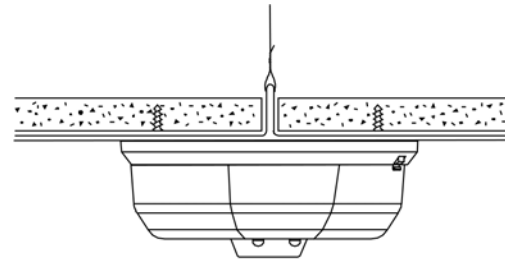

Figure 3 Mount the CO detector across ceiling panel support
- To removable ceiling panels. Attach the detector across panel support as shown in Figure 3.